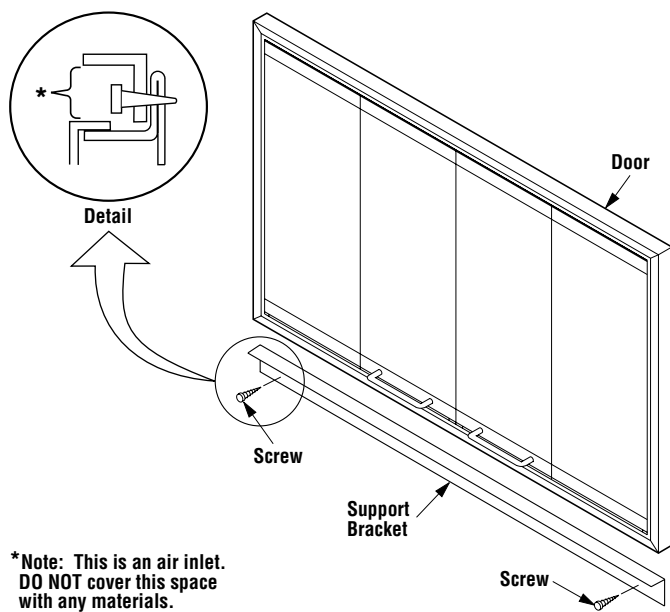

Figure 1
**Step 1.** Position the door support bracket along the lower front face of the appliance ash lip, oriented as shown (see Figure 1) (DO NOT affix the door support bracket to the outer front face of the appliance). Using the two (2) self tapping screws provided, secure the door support bracket to the front of the ash lip.